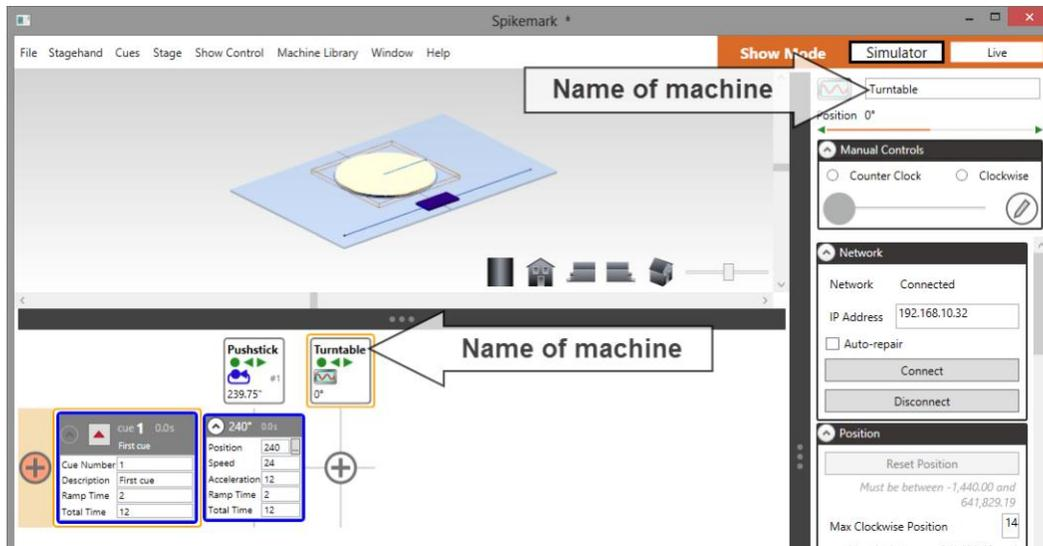

Figure 35
- Before we move on to the next section and write some more cues, let's take a second to rename our new turntable. Rather than use the name *Revolver*, let's label it *Turntable*. Click on the name in the **Stagehand Editor** and change the name to *Turntable* and then press the Tab key to finish editing. You'll see that the name updates in the **Cue Grid** to read *Turntable* (Figure 35).